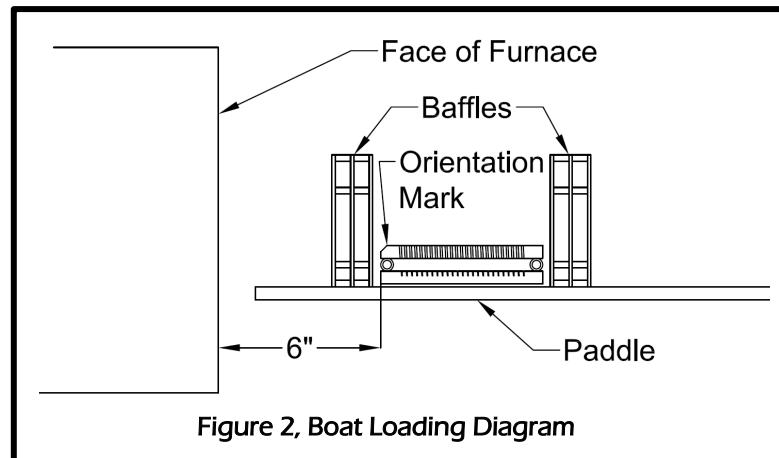

Figure 2, Boat Loading Diagram
- 6.6.1 The furnace-side end of the boat should be 6" from the face of the furnace (see **Figure 2, Boat Loading Diagram**).